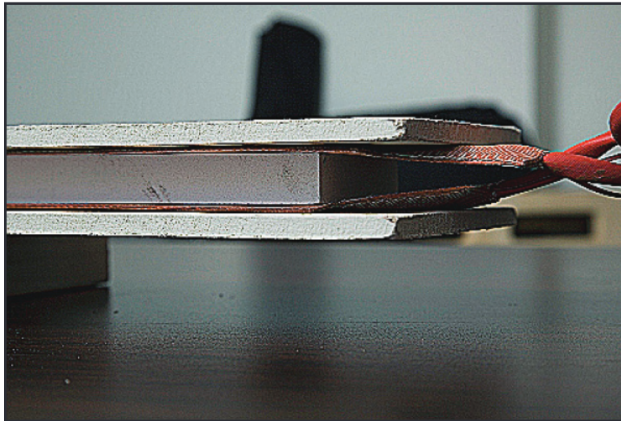

Figure 7
6. Add the second piece of concrete board as shown in, ensuring the blankets do not shift on the material. (Fig. 7)